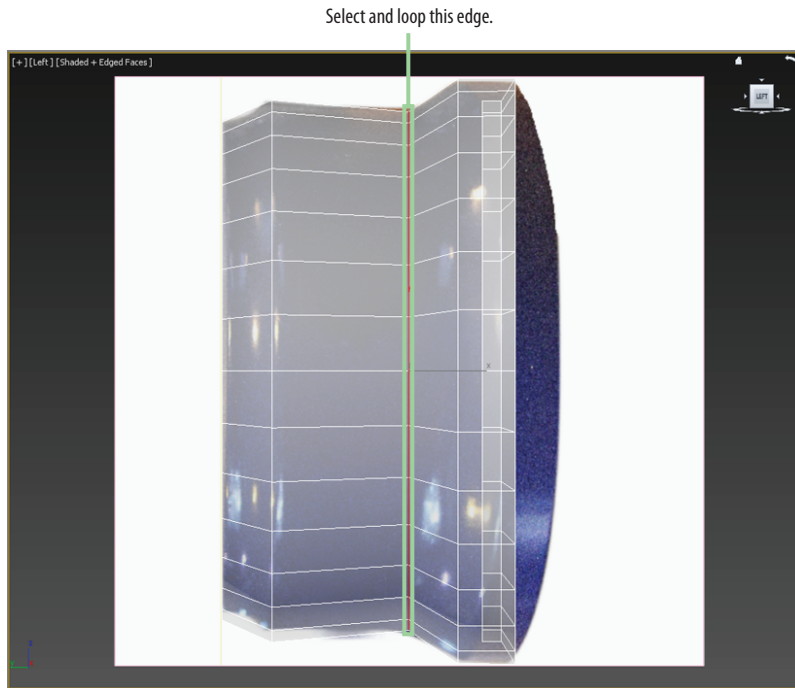

FIGURE 2.14 The chamfer performed on a looped edge
15. Then click OK (). The results are shown in Figure 2.14.